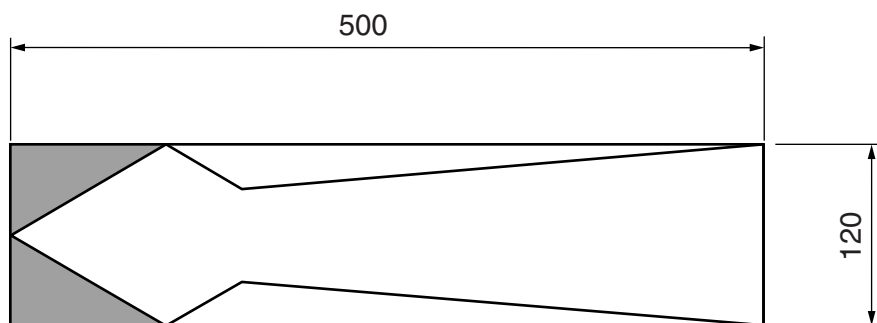

Fig. 2
- (a) Fig. 2 shows the sign marked out on a piece of hardwood ready to be cut to shape.